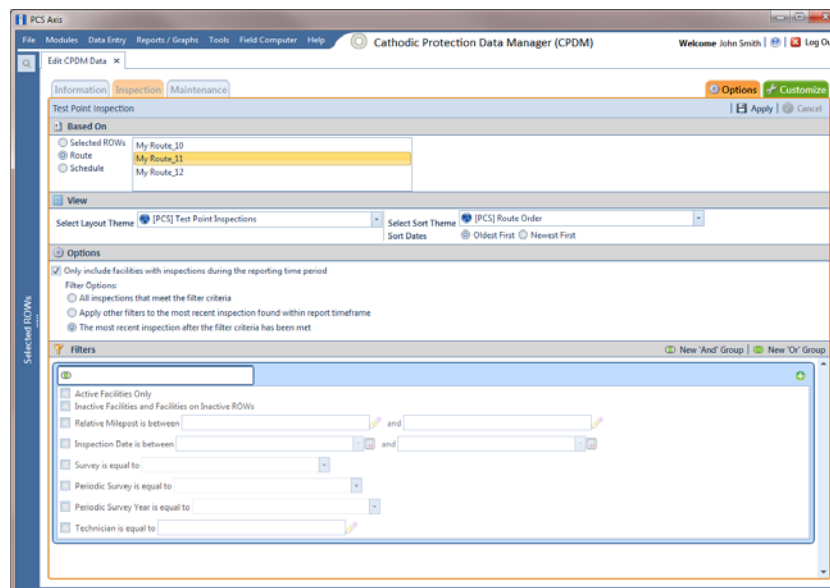

Figure 7-35. Based on Route
- b Click the **Options** tab  to open the options page and then complete the following steps (Figure 7-35, page 220):
- a To change the grid layout theme, click the down arrow in the field **Select Layout Theme** and select a theme in the selection list (Figure 7-35).